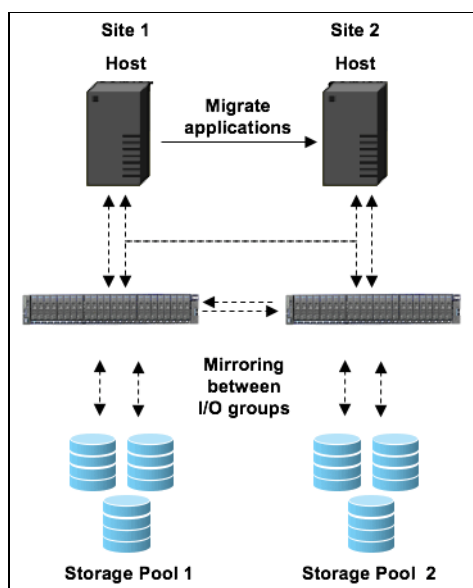

Figure 5-10 Overall HyperSwap diagram
HyperSwap is a system topology that enables high availability (HA) and disaster recovery (DR) (HADR) between I/O groups at different locations. Before you configure HyperSwap volumes, the system topology must be configured for HyperSwap and sites must be defined. Figure 5-10 shows an overall view of HyperSwap that is configured with two sites.